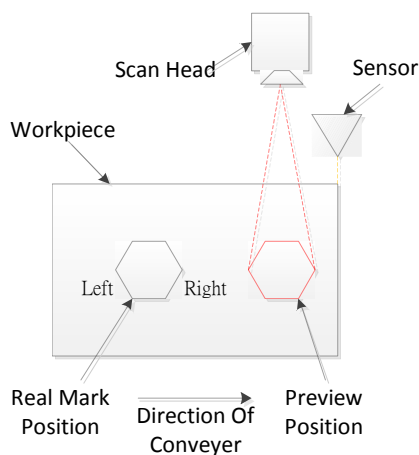
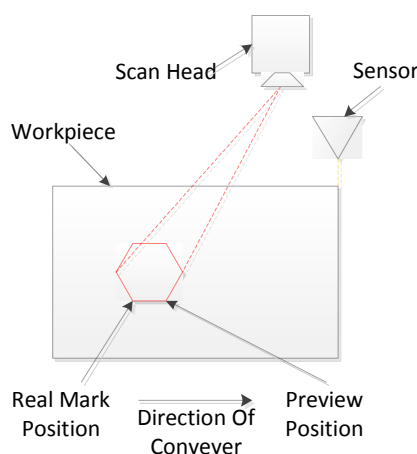

Fig. 7.2.04 Different Position
Fig. 7.2.05 Same Position
When using “Mark On Fly” function, users will find that the preview mark position and the real marking position are not the same, see Fig.7.2.04. This is because there will have a tiny delay time between the sensor inducts the work piece and the laser starts to mark. This delay time and the speed of conveyer will cause this status. As a result, users can fix this status by modifying “**Start Signal Lag**” and make the position of preview and real marking be the same, see Fig.7.2.05.
- III. The arrangement of Mark On Fly device, workpiece and sensor must be placed such as Fig.7.2.04.
Take Fig.7.2.05 for example. Suppose users set this value as 100. If the preview result located on the right side of real mark position, then increase the setting value. On the contrary, decrease the setting value.